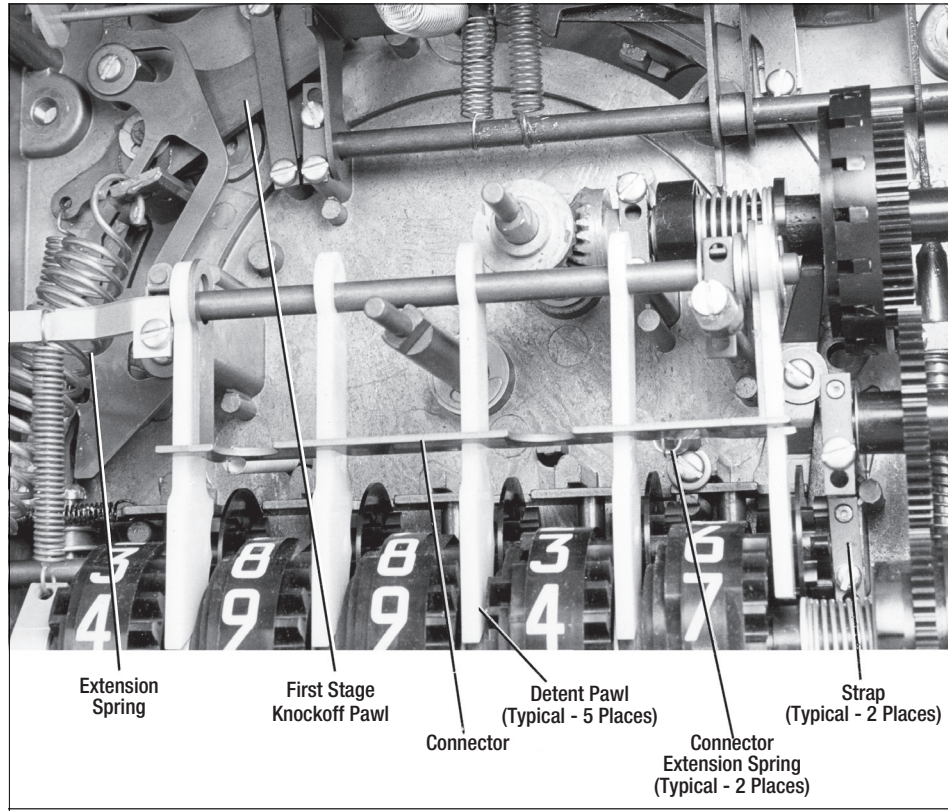

Figure 10. Meter Preset Parts Identification (Wheels Installed)
Refer to Figures 10, 11, and 13 for parts identification when using Troubleshooting Table 1.
Broken extension spring between strap securing left side of wheel shaft and knockoff plate (Figure 10)	Install new extension spring.
Broken first stage knockoff pawl (Figure 10)	Install new first stage knockoff pawl.
Wheel Shaft Group Removal (See Figure 10)
6. Install two straps and the pan head screw that secure the wheel shaft (Figure 10).
8. Swing detent pawls and connector down toward front of Preset (Figure 10).
9. Install extension spring between strap securing left side of pinion shaft and shift bar (Figure 10).
10. Install two connector extension springs between connector and base of Preset (Figure 10).